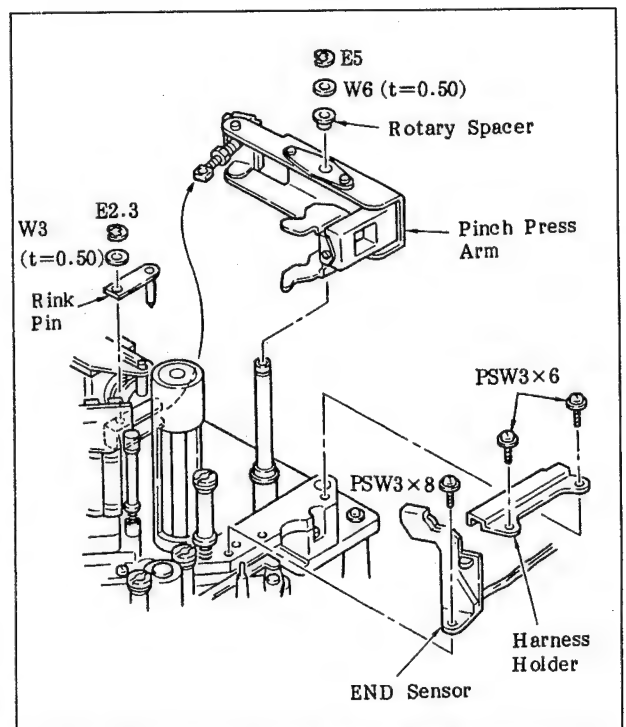

Fig. 6-82 Preparation before Making the Adjustments (1)
a. Remove the pinch press arm, END sensor, and harness holder by referring to Figure 6-82.